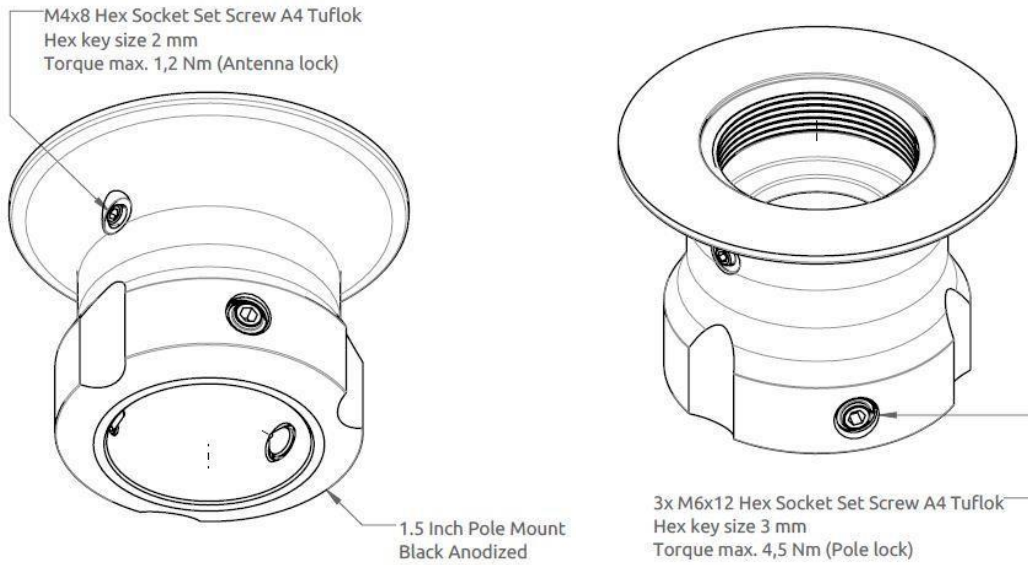

Figure 16: Pole Mount (1.5" tube), Antenna Unit
4. Screw the pole mount (clockwise) on the LT-3130 Antenna Unit, and fasten the antenna lock pinot screw, as illustrated in Figure 16 on page 26 (max torque = 1.2 Nm)
5. The LT-3130 Antenna Unit and pole mount can now be mounted on the 1.5" tube. Fasten the three pole lock pinot screws, as illustrated in Figure 16 on page 26 (max torque = 4.5 Nm)
The Pole Mount (1.5" tube), Antenna Unit only support a 1.5" tube. The pinot screws (antenna and pole lock) torques are specified in Figure 16. The pole mount is made of milled aluminium (anodized). The pinot screws are made of A4 stainless steel.